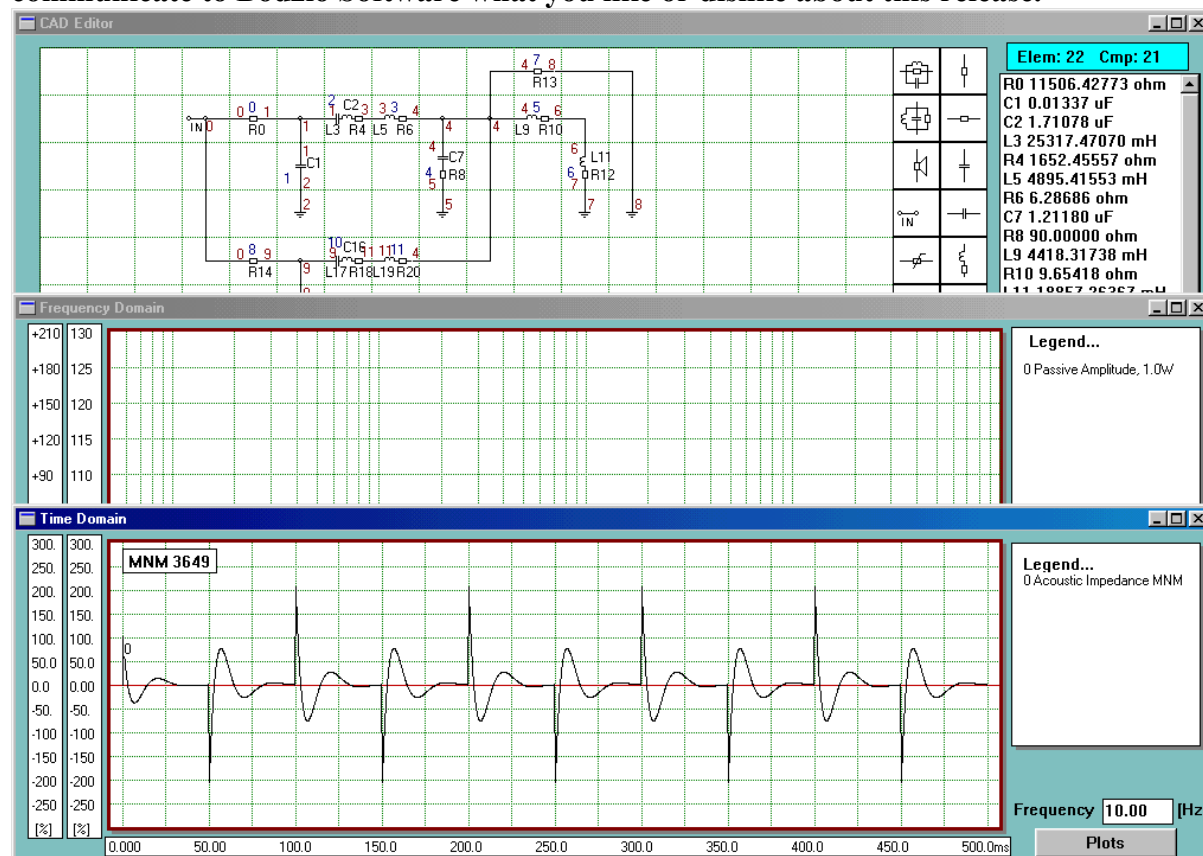

Fig 6.6 Time domain response of the two drivers using MNM techniques
3. Fig 6.6 - shows time domain response of the two drivers using MNM techniques.